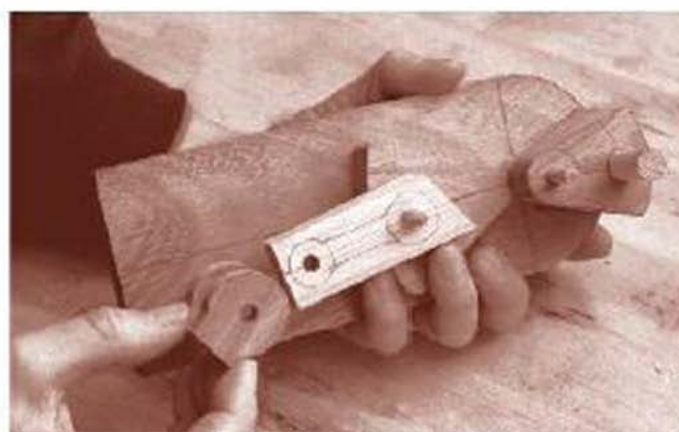

FIGURE 2-11
- 2** Run the two center points through with a $\frac{1}{4}$ "-diameter drill bit, and then have a trial fitting to link up the sector and the crosshead joint (Fig 2-10). If need be, reduce the thickness and diameter of the bottom end of the rod so it is a good, loose fit between the ears of the crosshead (Fig 2-11).